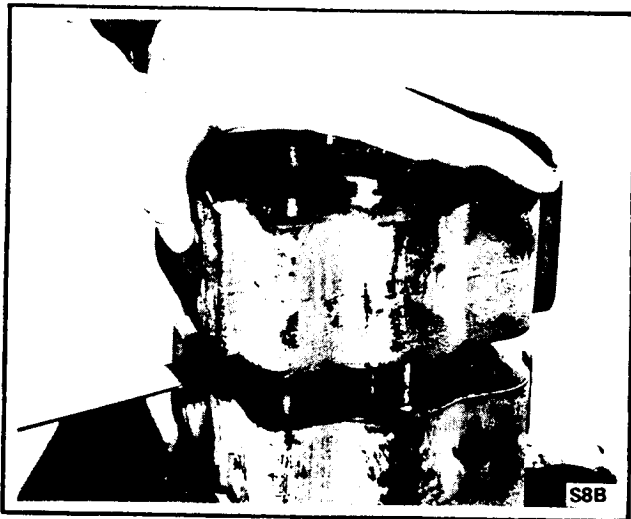

Fig. 9 - Removing Bearing Carrier
7. Lift or pry off the bearing carrier. Take care not to damage the machined surfaces.\* See Fig. 9.